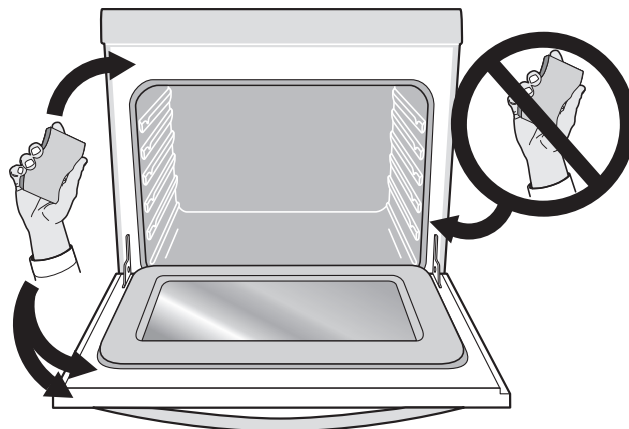

Figure 34: Oven door area to clean and not clean (gasket)
- Do not clean the oven door gasket (Figure 34). The woven material of the oven door gasket is essential for a good seal. Care should be taken not to rub, damage, or remove the gasket. Do not use any cleaning materials on the oven door gasket. Doing so could cause damage to the door gasket.
- Clean any soil from the oven frame, the door liner outside the oven door gasket and the small area at the front center of the oven bottom (Figure 34). These areas heat sufficiently to burn soil on. Clean using soap and water prior to starting fresh clean.